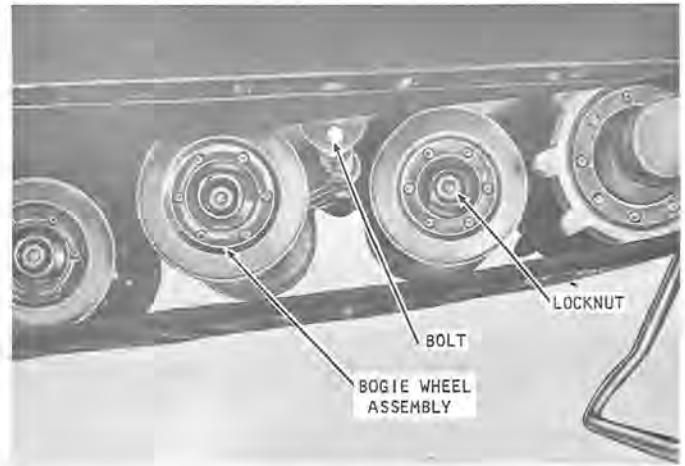

Figure 10
2. Remove the bogie wheel assembly by removing the bolt (figure 10) and washer from each end of the bogie wheel support shaft.